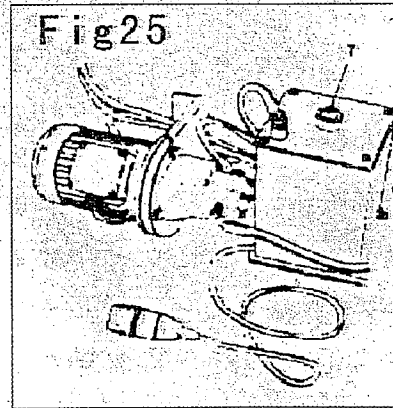

Fig 25
- (1) Carriage slides
- (2) Tool holding arm spindle
- (3) Lifting cylinder of the flange holding arm. Grease periodically the spindle of the flange holding arm, use lubricant in summer and use gear oil in winter.
- (4) Check periodically the oil level inside the hydraulic unit with the scale (fig. 25), and the quality of the oil (if necessary, top up with the hydraulic oil 30#). Top up the gearbox with the lubricant 320# (every season), the oil level should half more than the oil window.
- (5) Check belt tension of the electrical motor, if a tension adjusting is needed, remove the protective plastic cover, and adjust the belt by the adjusting screw.